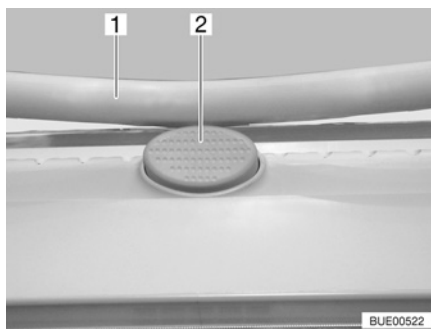

Fig. 36 Safety knob on the Heki skylight
- Press the safety knob (Fig. 36,2) and pull the bar (Fig. 36,1) down with both hands.
- Push the bar upwards with both hands until it is above the safety knob (Fig. 36,2).